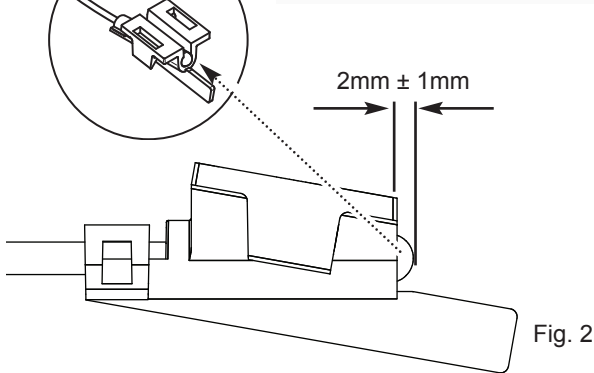

Fig. 2
**NOTE:** To ensure effective operation the end of the IFOS must be positioned to protrude  $2\text{mm} \pm 1\text{mm}$  from the body of the clip (Fig. 2).